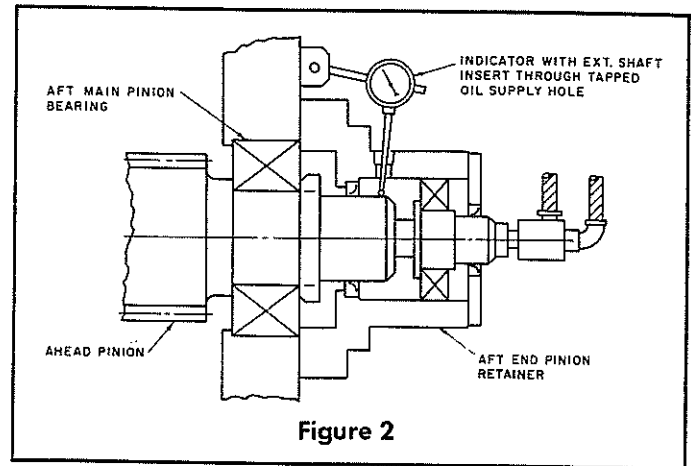

Figure 2
- C. Remove oil line for slip systems or pipe plug for non slip systems from aft end pinion retainer. Mount indicator with extension shaft positioned on top of aft end of pinion shaft. See Figure 2.